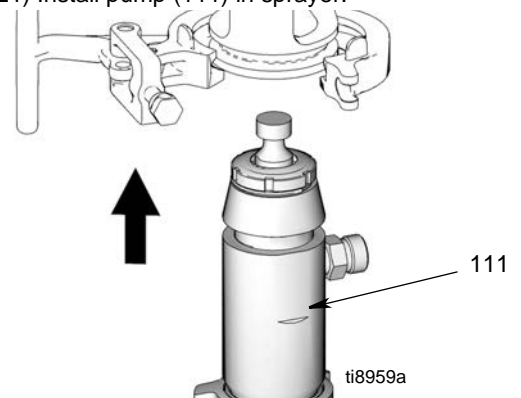

FIG. 21
- 2 (Fig. 21) Install pump (111) in sprayer.